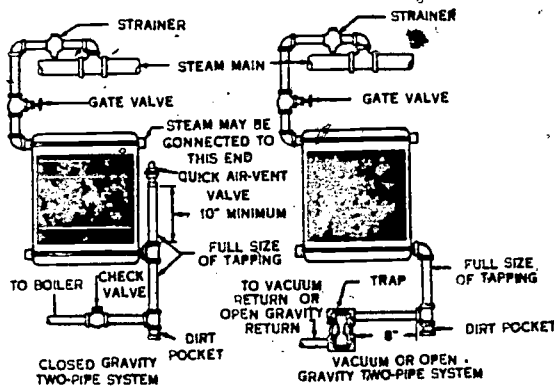

Figure 60. A typical unit heater installation.
29. *Unit Heater.* Unit steam heaters are convection heaters in which the air is circulated by means of a fan. The unit heater is similar to an automobile radiator. It is inclosed in a sheet metal case with the fan mounted at the rear. A typical unit heater is illustrated in figure 60. The steam enters the unit at the top, and the heat is transferred to the fins of the heater. The fan blows the air over the fins and out into the space to be heated. When the steam condenses, the steam trap, usually a float thermostatic type, allows the condensate to drain into the condensate return line. A strainer is installed just ahead of the trap to help keep foreign matter out of the trap.